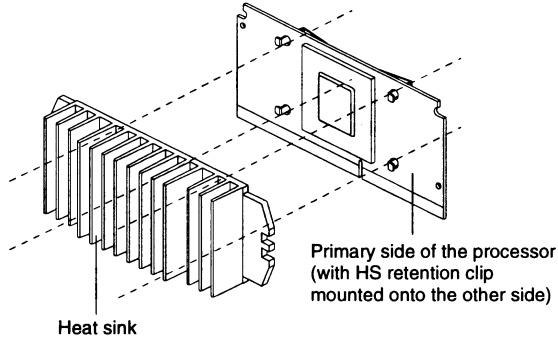

Figure 3-6: Inserting the left legs of the clip into the heat sink.
5. Insert the two left legs of the HS retention clip fully into the heat sink (see Figure 3-6).